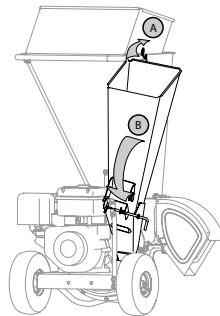

Figure 1
1. Pull the spring latch upward. See A in Figure 1.
2. Gently pivot the chipper chute down until it clicks into the lock rod. See B in Figure 1.